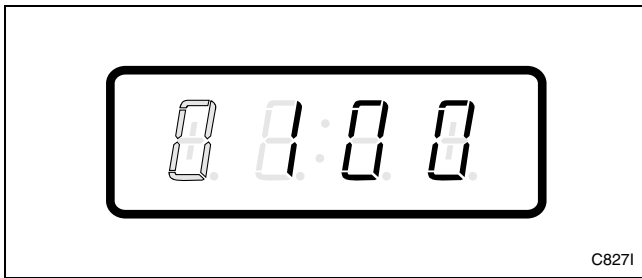

Figure 32
6. Press the START (enter) keypad to enter the fifth digit and display remaining four digits. The active digit will flash one second on and one second off. Refer to *Figure 32*.